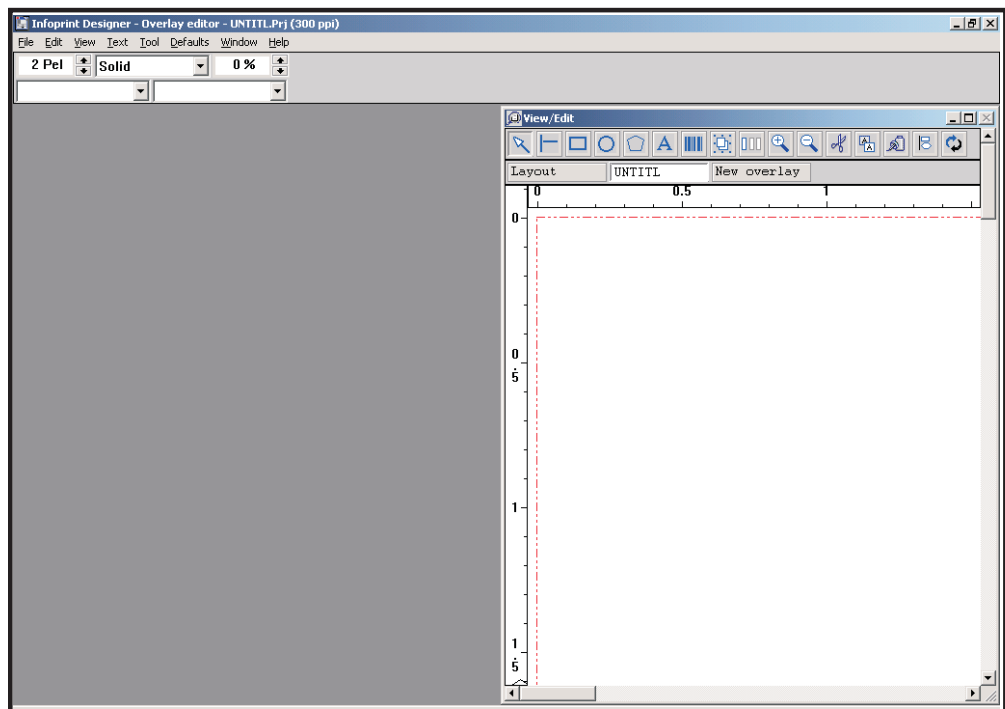

Figure 65. New Project
1. When you start Infoprint Designer, it opens with the Overlay Editor started so you can begin creating an overlay. You will draw your overlay in the **View/Edit** window, shown in Figure 65.